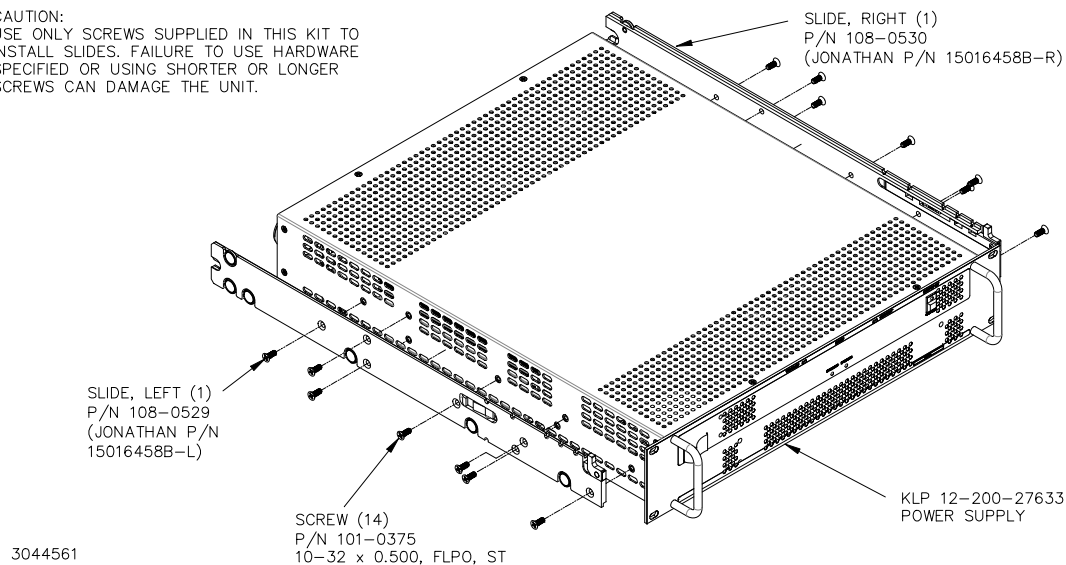

FIGURE 1. INSTALLING CHASSIS SLIDES ON KLP 12-200-27633 POWER SUPPLY
#### 2.2 PROCEDURE (SEE FIGURE 1)
1. Attach right slide section (P/N 108-0530) to right side of KLP 12-200-27633 chassis using seven screws (P/N 101-0375) (see Figure 1).